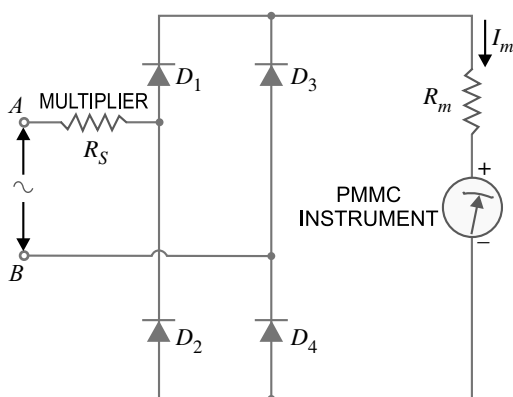
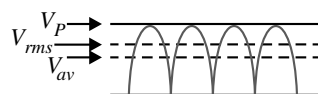

Fig. 20.21
Fig. 20.22
**Circuit details.** Fig. 20.21 shows bridge rectifier voltmeter for the measurement of a.c. voltages. A multiplier resistor  $R_S$  is connected in \*\*series with the PMMC instrument having resistance  $R_m$ . When a.c. voltage to be measured is applied to the circuit, full-wave rectification will be obtained as shown in Fig. 20.22. The meter deflection will be proportional to the †average current. Since there is a definite relationship between the average value and r.m.s. value of a sine-wave (r.m.s. value =  $1.11 \times$  average value), the meter scale can be calibrated to read the r.m.s. value directly.